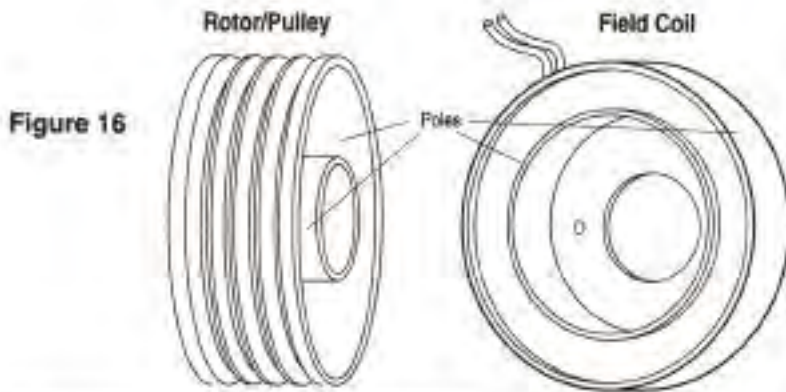
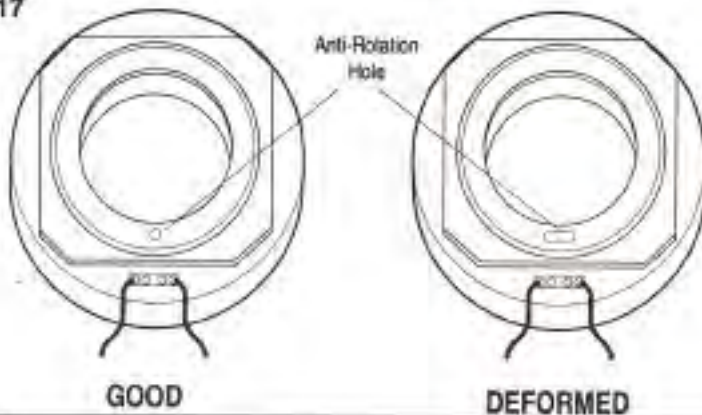

Figure 16
Figure 17
- The field coil snap ring must be seated fully in the groove. See Figure 15C, page 13. A typical indicator of improper field coil snap ring installation is rubbing between the field coil and rotor/pulley poles. See Fig. 16. Also, if the field coil has an anti-rotation hole, the hole may be elongated or deformed from beating against the anti-rotation pin. See Figure 17.